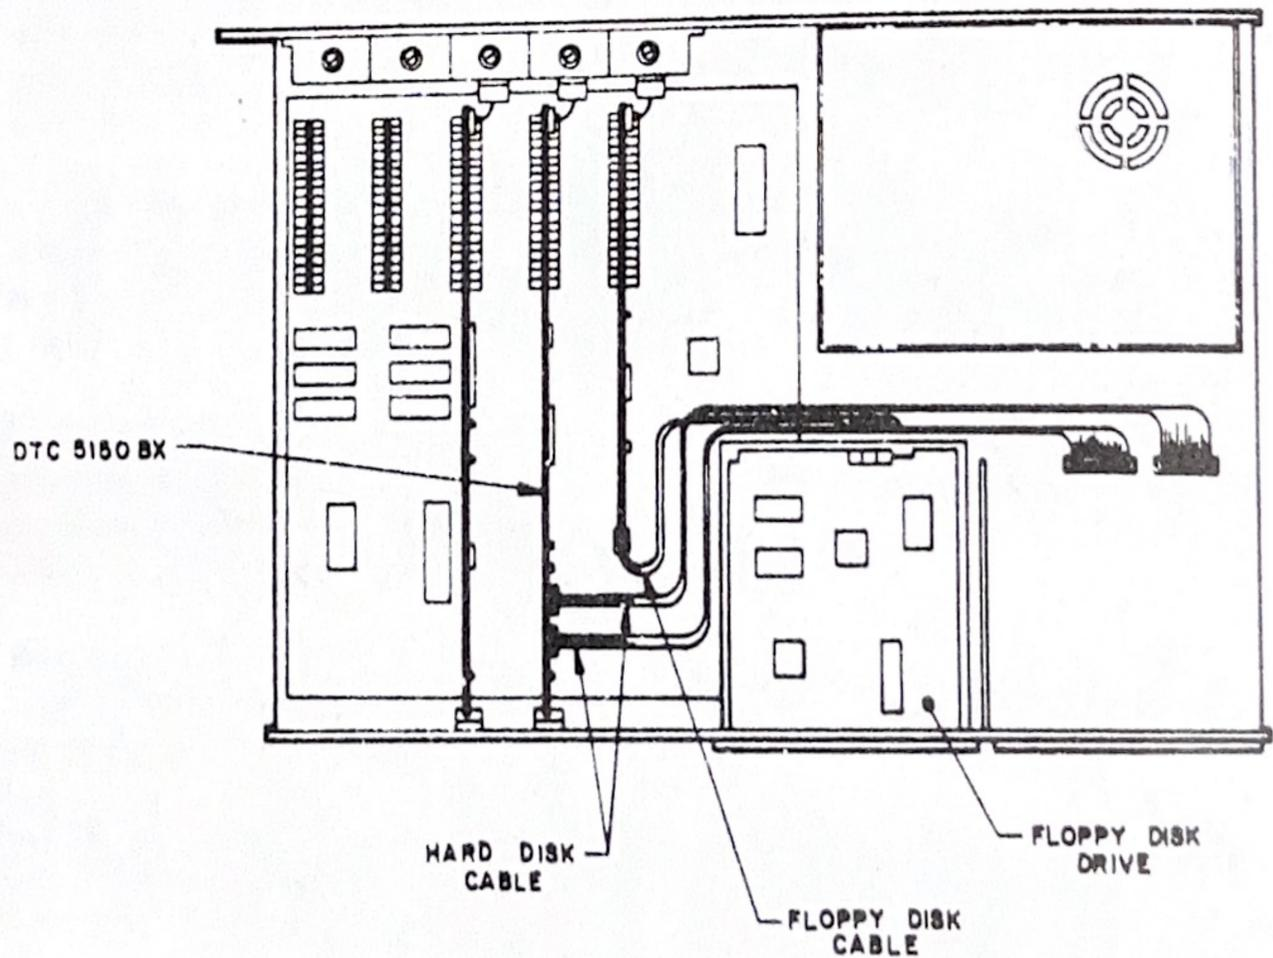

Figure 5. Routing of Cables for Internal Mounting
- a. Route cables around the other expansion cards, then around the back of the left-hand floppy disk drive, and into the area behind the hard disk (See Figure 5). Carefully bend the cables as necessary to allow access to the rear of the hard disk drive.